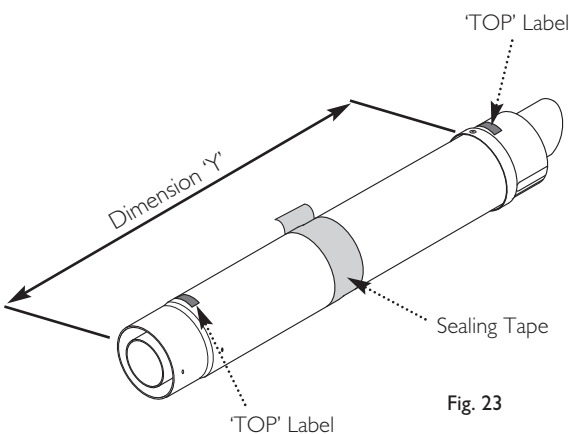

Fig. 23
8. Adjust the two telescopic sections to dimension 'Y' and seal the joint with the tape provided (Fig. 23). Ensure that the labels marked 'TOP' on the Terminal and Connection Assemblies are uppermost.